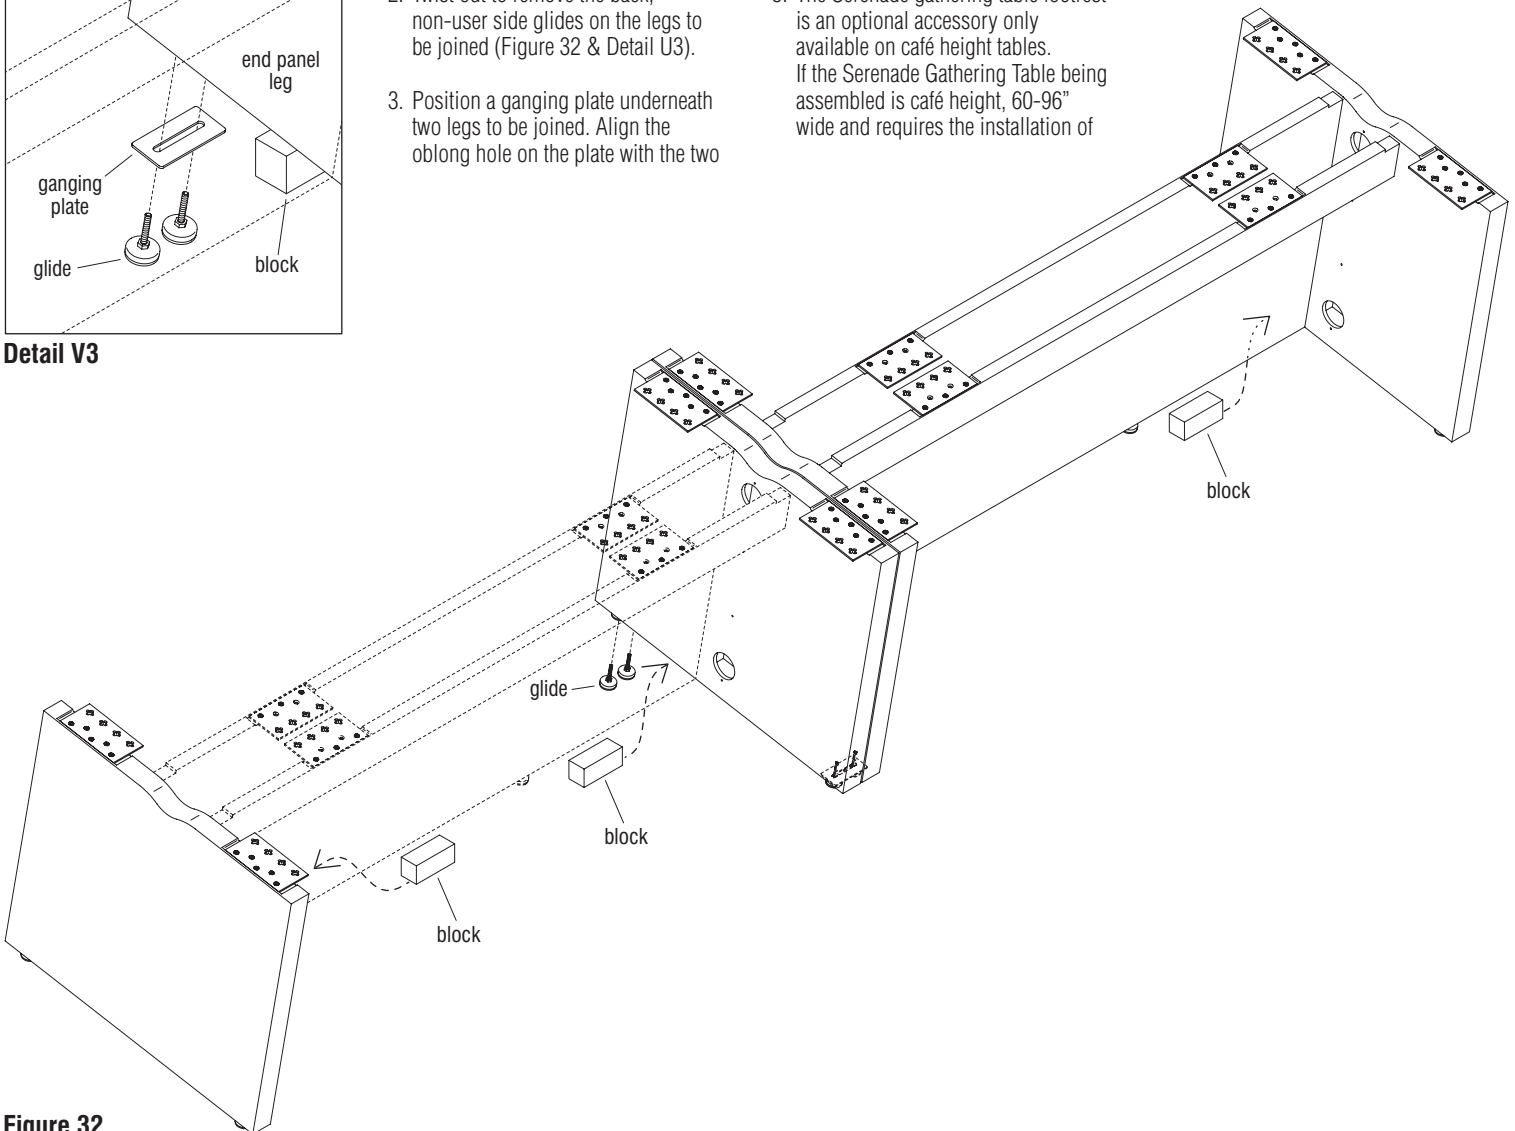

Figure 32
1. Have one person positioned at each single leg and at each pair of legs to be joined on the non-user side, then carefully lift, to tilt the tables to be join back enough for a third person to insert one block under each single leg and under the pair of legs to be joined. Place blocks just behind the non-user side glides as illustrated. Once all blocks are in position, the table legs can be lowered onto the blocks (Figure 32).
2. Twist out to remove the back, non-user side glides on the legs to be joined (Figure 32 & Detail U3).